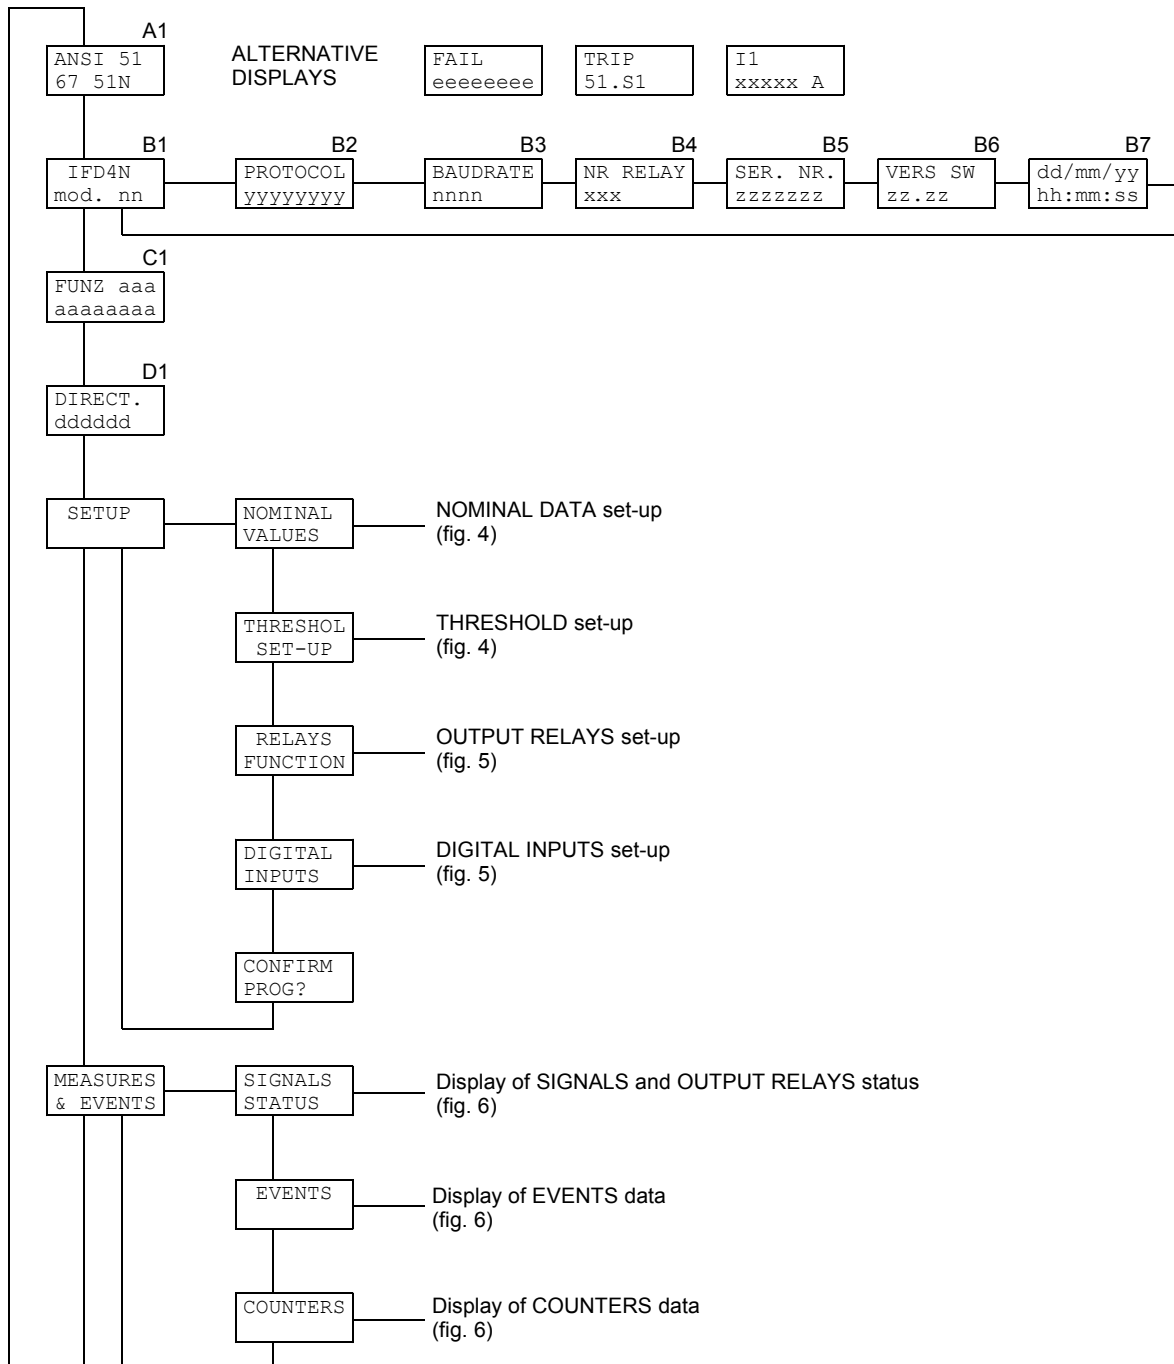

Figure 3
The programmable parameters are showed in Figures 3, 4, 5 and 6 at the following references:
- display on STANDARD MODE (Fig. 3, ref. A1 – par. 5.1)
The contents and the structure of the displayed messages are shown in figures 3, 4, 5 and 6; the references A1, B1, B2 etc. identify specific displayed messages in the figures.
A1 - STANDARD DISPLAY (fig. 3)
5.3 Address and time (fig. 3)
5.4 Protection function selection (fig. 3)**C1 - FUNCTION SELECTION (programmable)**